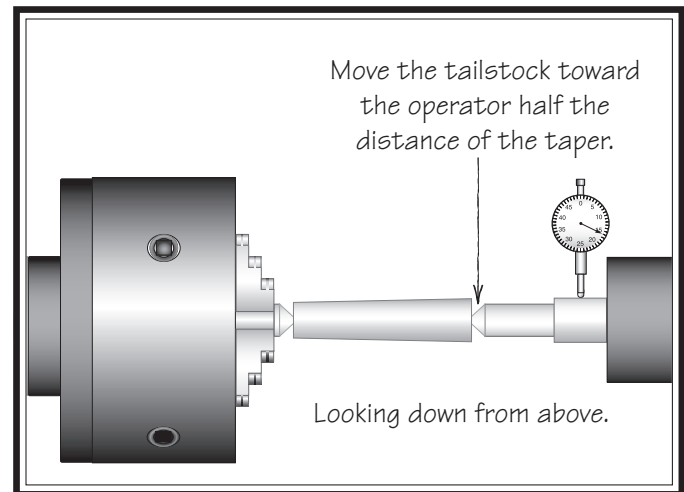

Figure 61. Adjust tailstock toward the operator.
- If the machined workpiece is *thicker* at the tailstock end, move the tailstock *toward* the operator $\frac{1}{2}$ the distance of the amount of taper (see **Figure 61**).